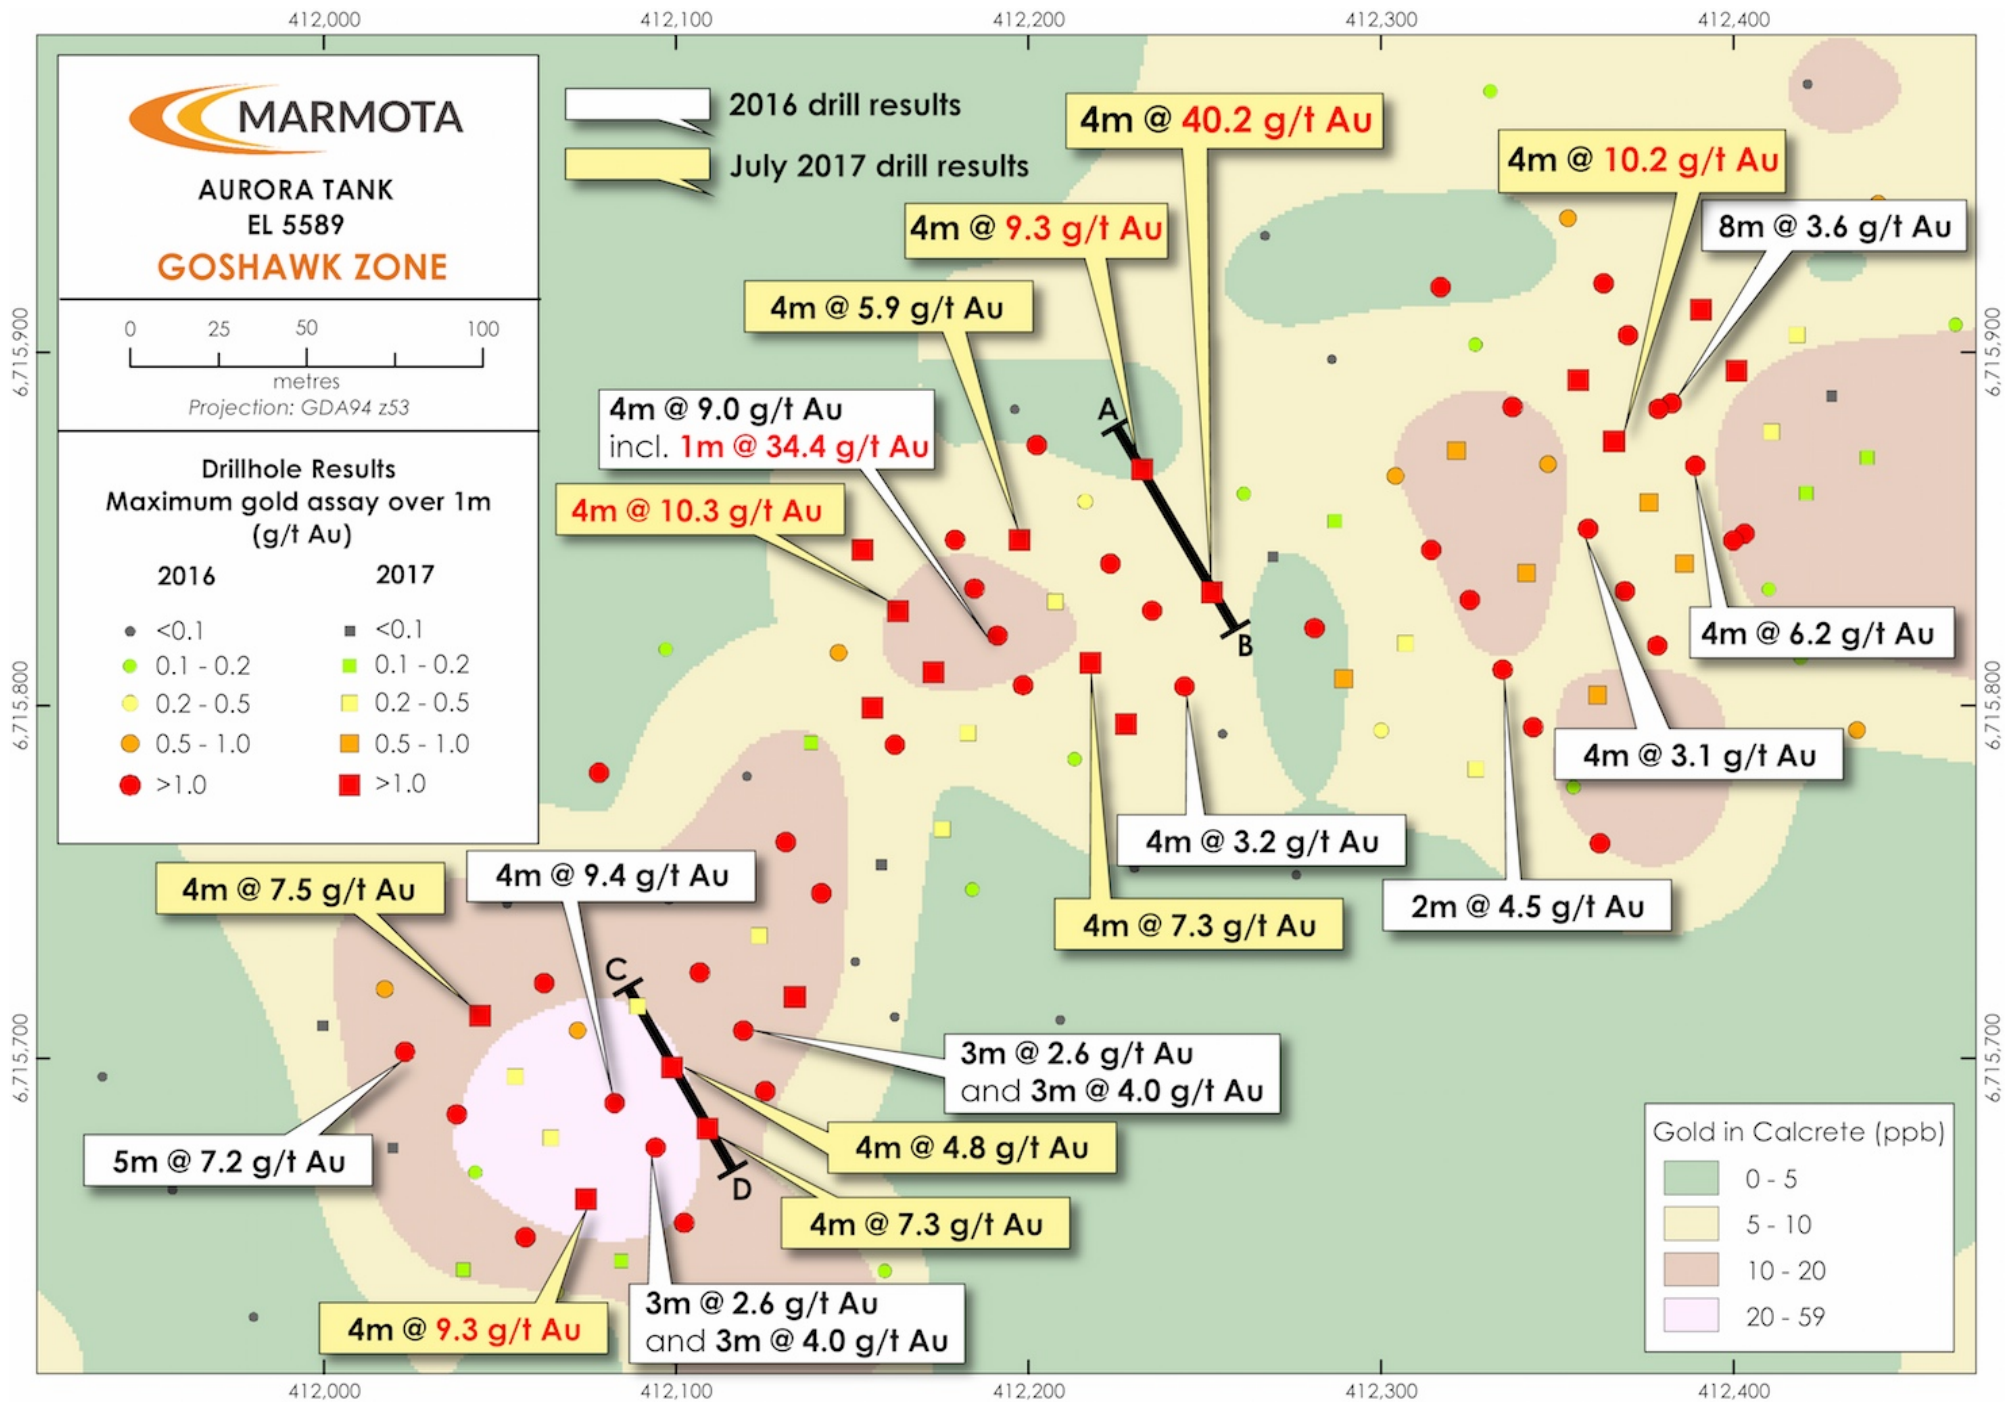

Figure 1: Aurora Tank – Best downhole gold results at Goshawk Prospect
- Significant gold mineralisation over a 500m strike length is now confirmed [see Fig. 1]
- Figure 2 provides chip tray photographs. Figures 3 and 4 illustrate cross-sections at AB and CD [see Fig. 1]